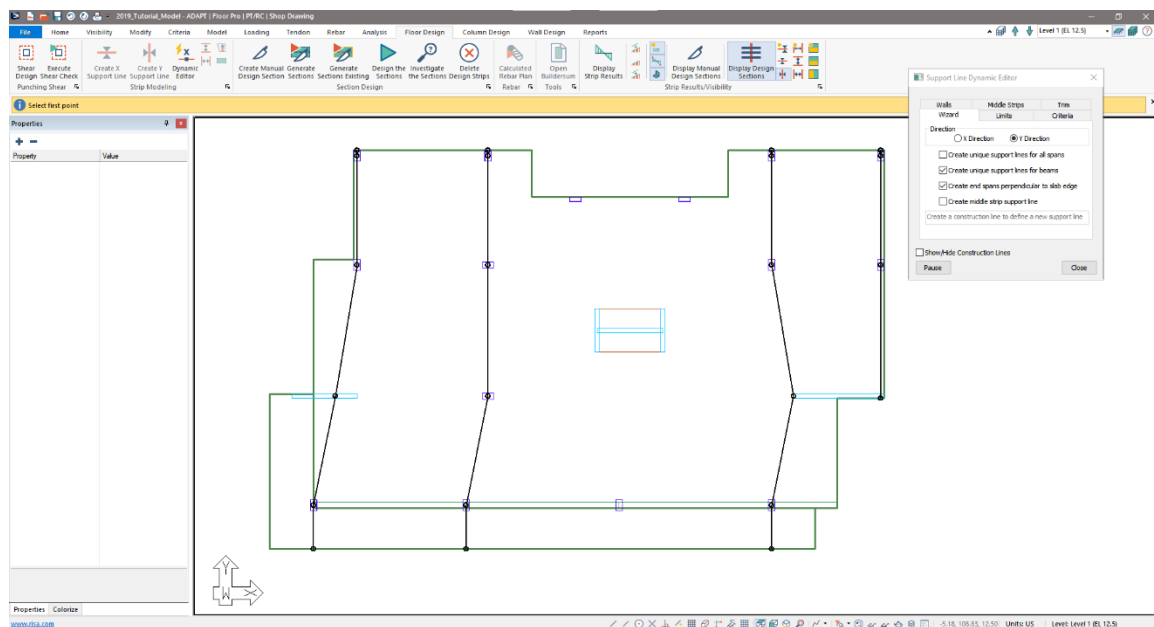

Figure 9-34
- Skip the middle core area and create the last two continuous support lines for the last two column lines in a similar fashion to the previous support lines created. When finished the model should look similar to **FIGURE 9-34**.